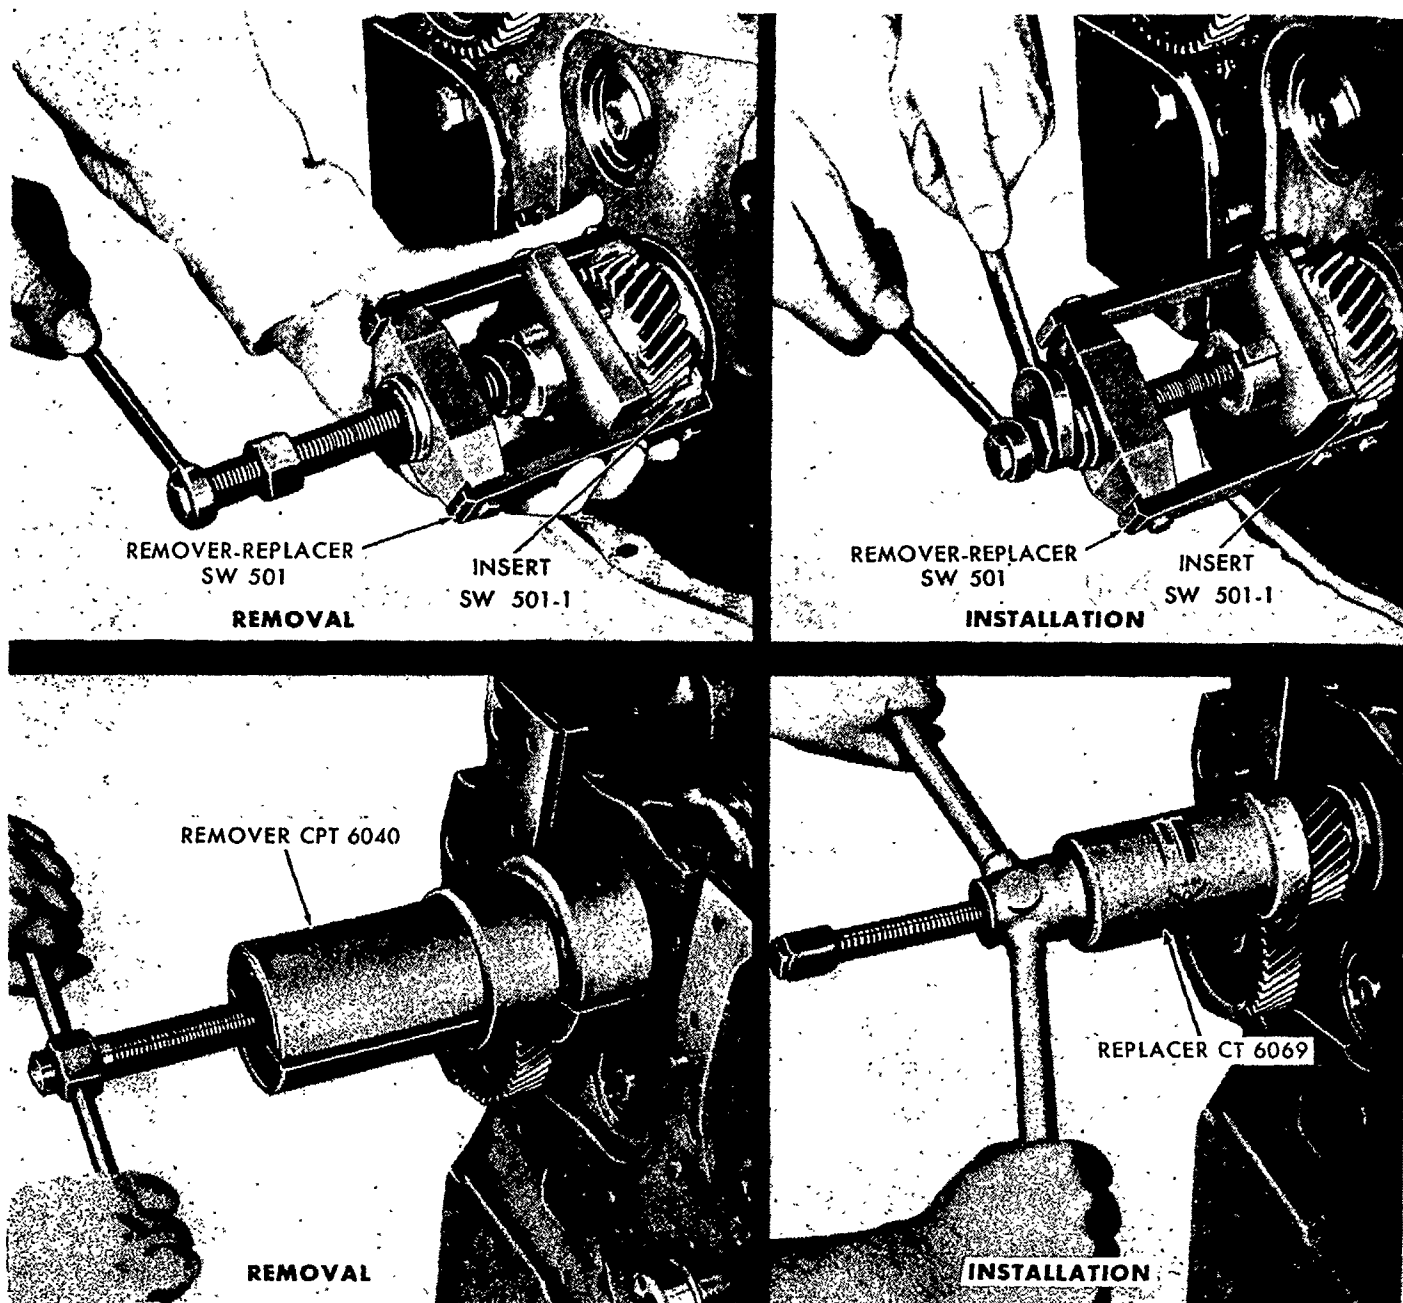

Figure 33
Remove the crankshaft gear with Crankshaft Gear Remover-Replacer, No. SW 501 with Insert SW 501-1, or Remover No. CPT 6040, as shown in Figure 33.
2. Install the crankshaft gear with Crankshaft Gear Remover-Replacer No. SW 501 with Insert SW 501-1, or Replacer No. CT 6069, as shown in Figure 33.